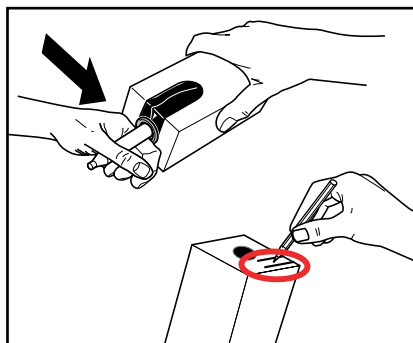

Fig. 19
4. Remove the plastic wrapper and write the „Expiry date“ on the product pack (fig. 19).
5. Follow the instructions on the product pack to open the doser (fig. 19).